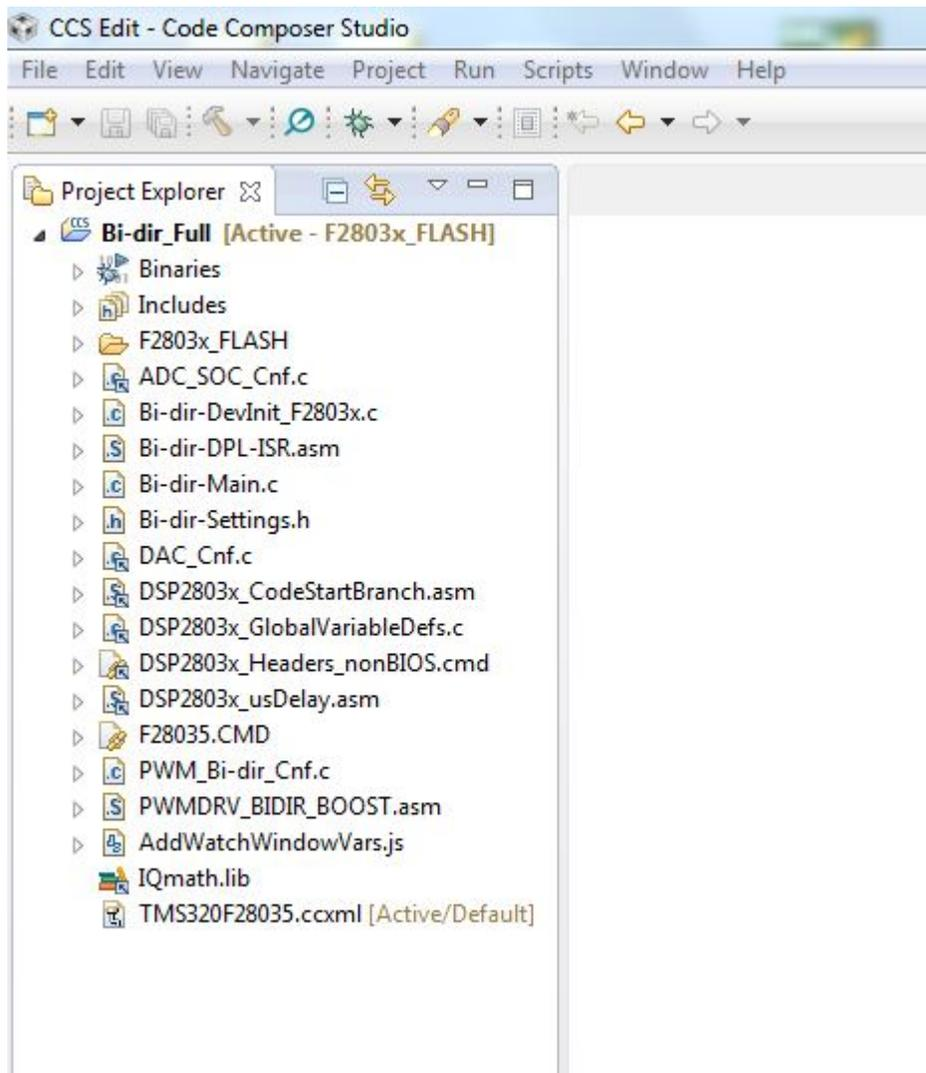

Figure 67. Full Bidirectional Project CCS Project Window
- In the Project window on the left, click + to the left of Project. See Figure 67.